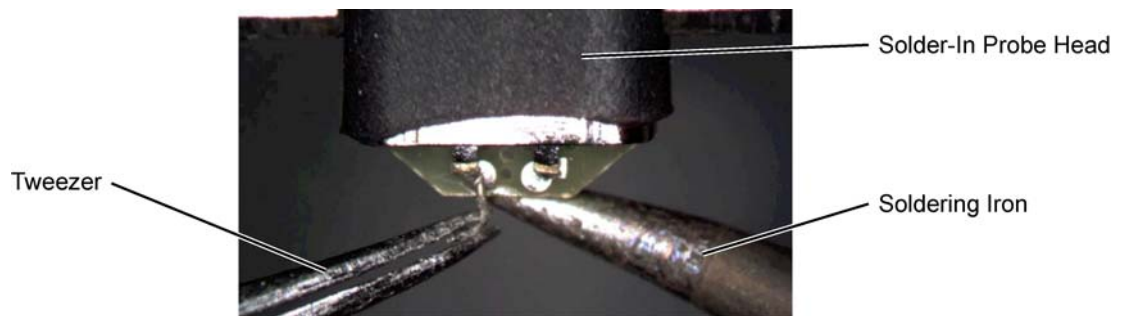

Figure 64 Removing the Old Wire
- 2 As shown in **Figure 64**, remove the old wires with tweezers while re-flowing the solder from the underside of the probe.